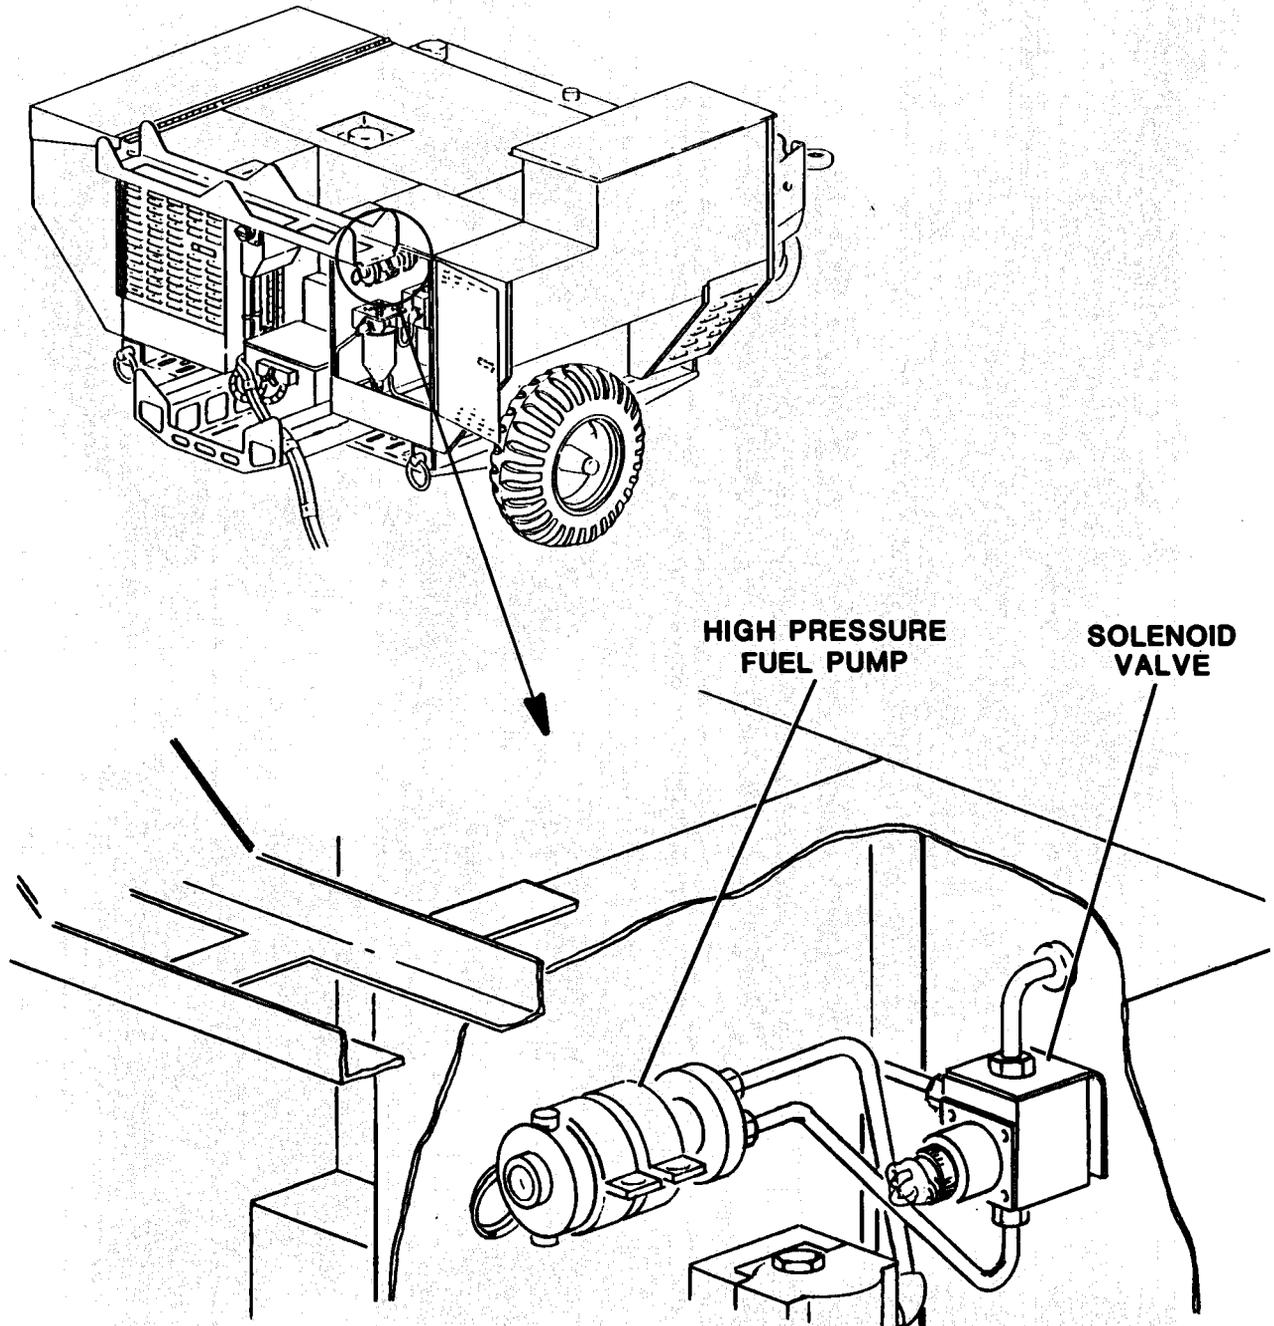

Figure 6-3. Electrical Fuel Pump (High Pressure) and Solenoid Valve
6-3. **ELECTRICAL HIGH PRESSURE FUEL PUMP.** Maintenance of the electrical high pressure fuel pump (figure 6-3) consists of testing and repair.
(1) Apply positive voltage to red lead and negative voltage to black lead. Ensure that motor runs clockwise when looking into shaft end.
(2) If new brushes have been installed, motor must run in at 27Vdc for at least 4 hours.
(3) After completion of test, connect pump to front end bell. Aline match marks and install screws. Torque screws to 32 inch lbs (3.6 Nm).
**6-4. SOLENOID VALVE.** Maintenance of the solenoid valve consist of testing and repair. See Figure 6-3 for location.
(1) Remove solenoid valve in accordance with paragraph 4-42a, TM 5-6115 612-12.